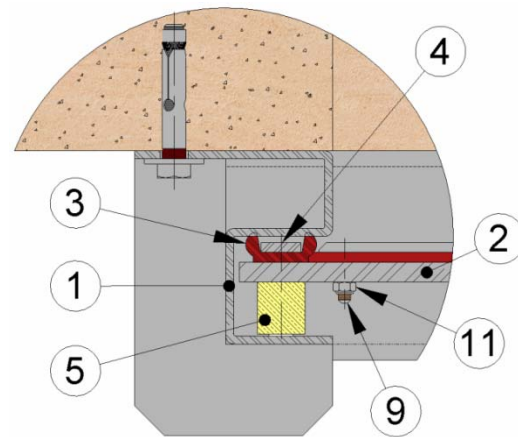

fig.9
3. Loosen and extract the screws (9, 10 and 11) which secure the flanges (4) and the seal joint (3).
4. Remove the flanges (4) and finally the deteriorated sealing joint (3), clean the housing.
5. Fit a new sealing joint (3) with the same dimensions as the old one.
6. Replace the flanges (4), securing the sealing joint (3). It is important that the side sealing joints and the lower seal protrude around five millimetres from the lower part of the through conduit (2) in order to make the lower seal. Having checked that they are correctly assembled, screw them down.
7. Introduce the through conduit in the body, bearing in mind that if the penstock is unfavourable unidirectional or bidirectional, the sealing joint will have two peaks and its position must be with the peaks open (Fig. 9).